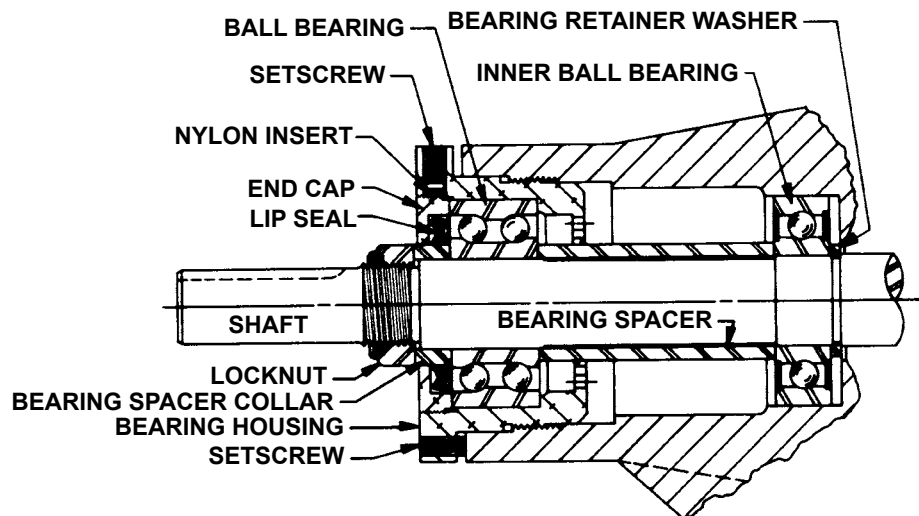

FIGURE 10 - THRUST BEARING ASSEMBLY AS, AK AND AL SIZES
AS, AK, AL: Remove the bearing spacer from the shaft. See **Figure 10**, page 6.
11. **AS, AK, AL:** Remove the bearing retainer washer. The washer may have stayed with the rotor and shaft when removed or is against the ball bearing. See **Figure 10**.
AS, AK, AL: Loosen the two setscrews in the flange outside diameter. Rotate the end cap and lip seal counterclockwise and remove. Remove the ball bearing. See **Figure 10**.
AS, AK, AL: Install the bearing spacer over the shaft and against the single row ball bearing. See **Figure 10**, page 6.
AS, AK, AL: Install the ball bearing into the bearing housing. Install the lip seal in the bearing housing end cap. The lip should face towards the end of the shaft. Put the bearing spacer collar in the lip seal and install in the bearing housing and tighten the set screws securely. See **Figure 10**, page 6.